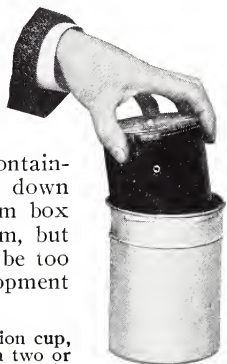

FIG. 7.
12. Having filled Solution Cup, as directed on page 84, lower Transferring Reel into Cup, with the end containing crossbar *up*. (Fig. 7.) Let Reel slide down slowly. The operation of removing reel from box can be done in the light of an ordinary room, but for safety it is well that the light should not be too bright. The total length of time for development is 20 minutes.